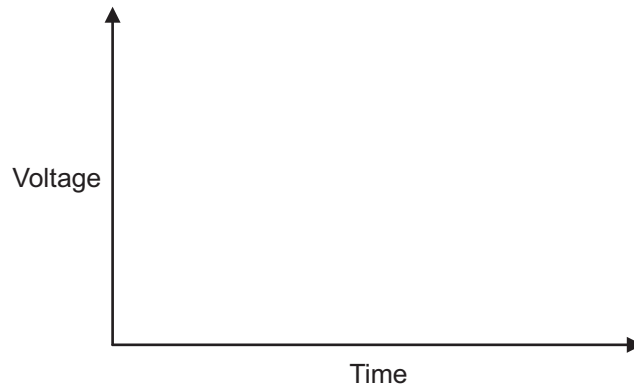

Fig. 6
- (iii) Use the Voltage/Time graph shown in **Fig. 6** to sketch the expected output of the monostable timing circuit. [1]